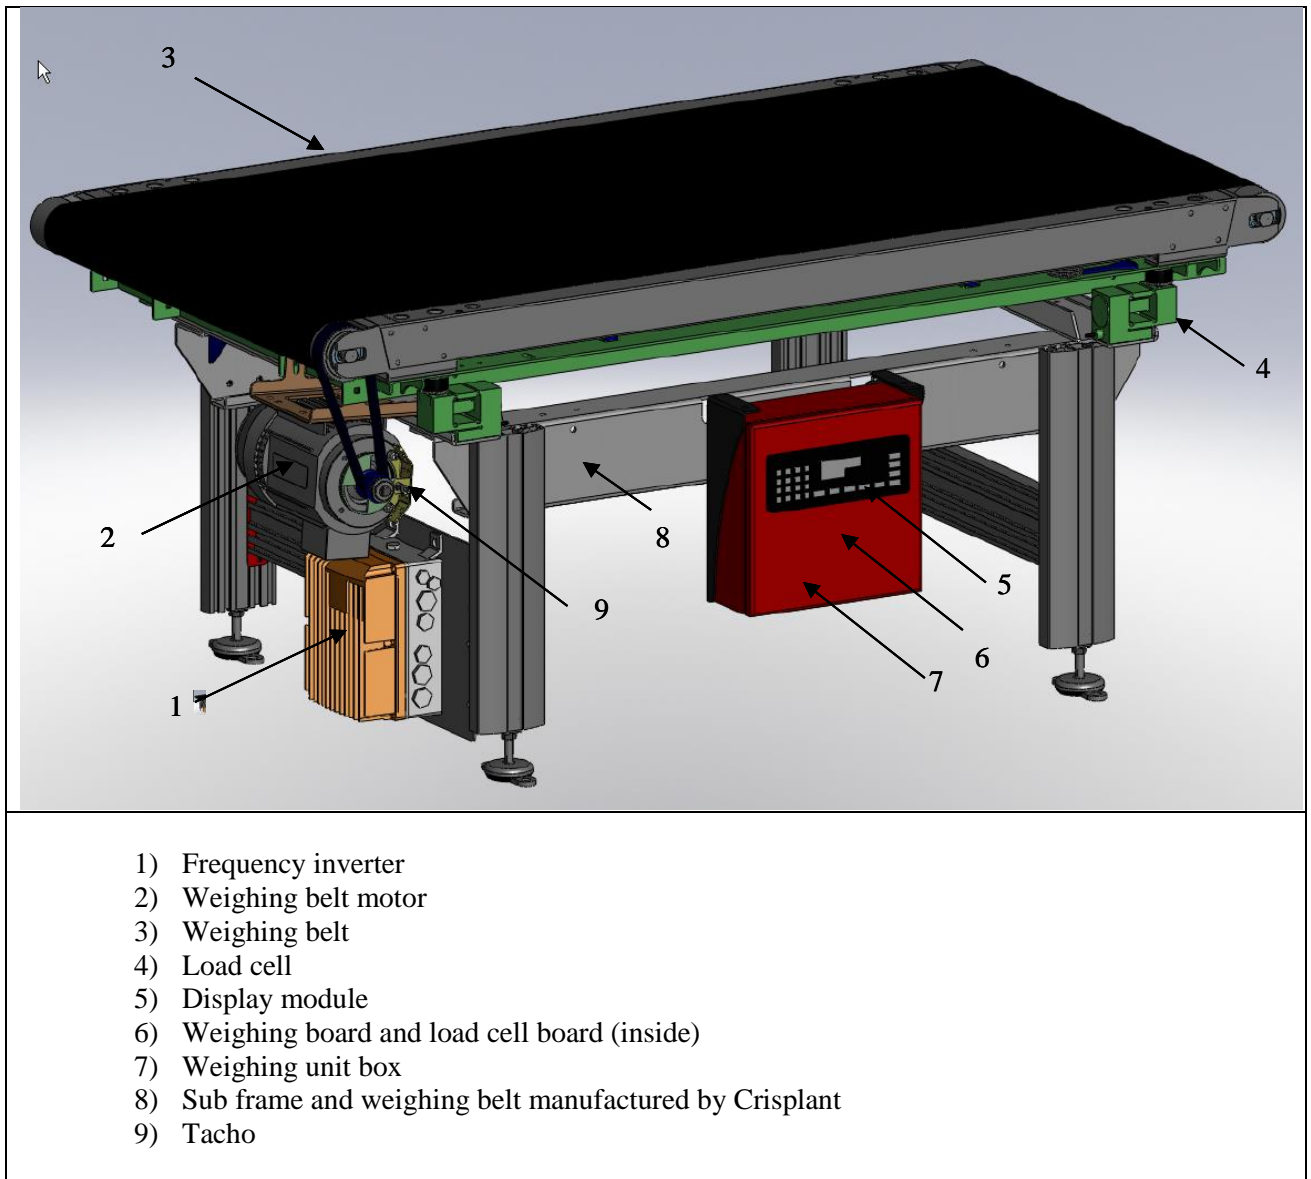

Figure 1
The weighing belt rests directly on four load cells. Shock absorbers are placed between the load cells and the weighing belt (figure 1).
The load cells are mounted on the chassis of the weighing instrument and positioned under each of the corners of the weighing belt. The chassis incorporates adjustable feet for levelling; however, the instrument is intended for fixed installation (figure 1).
The weighing belt motor is positioned under one (1) of the load cells. The motor is either a standard motor utilising a remote frequency inverter of various makes or an integrated motor combining the motor and inverter into a single unit (figure 1).